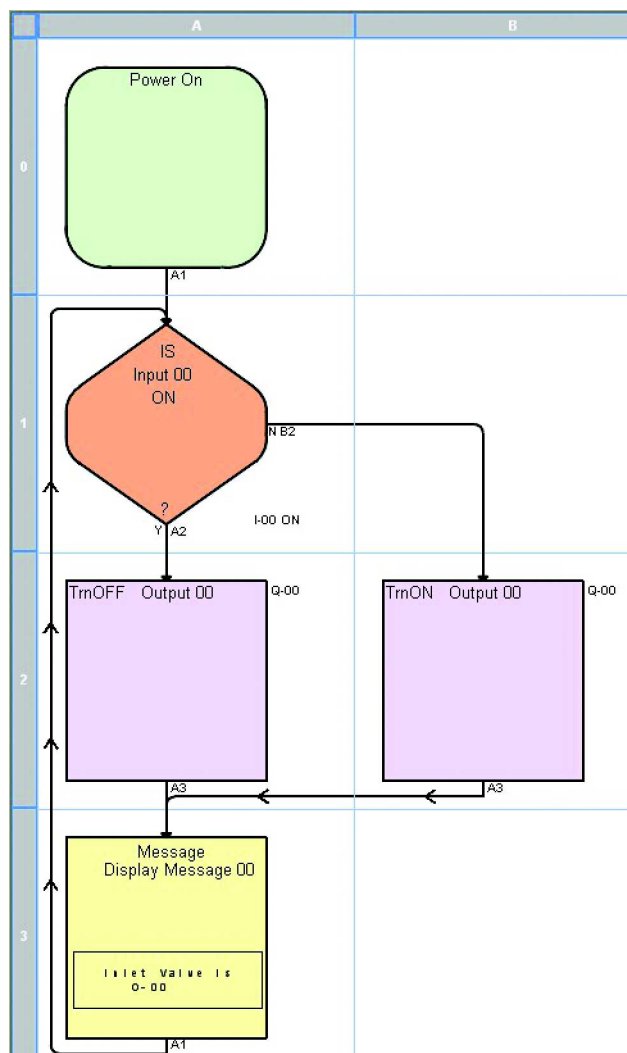

Figure 1-12 Finished flow chart
4. Connect the bottom of cell A3 to the top of A1. When finished, the flow chart should look like Figure 1-12.